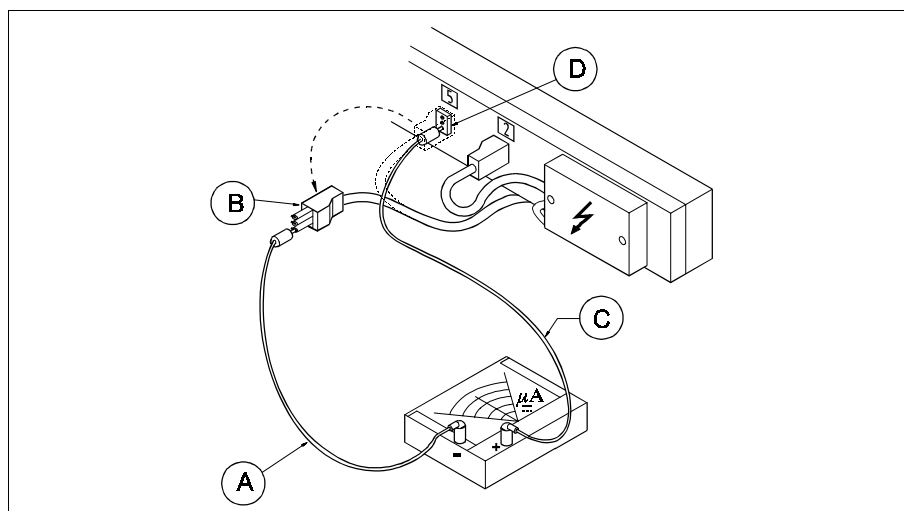

Fig. 24 Measuring ionisation
- e. Remove the RH upper side panel and within the control panel remove the test link for the flame detection (see wiring diagram) and connect a  $\mu\text{A}$ -meter (0 - 50  $\mu\text{A}$  =) in series with the flame detection circuit (see fig. 24).
While measuring ionisation the main burner should stay switched off. To do this, disconnect the main gas valve by breaking the electrical connection by removing the plug (4a). Remove the ionisation plug (5). Connect the black wire (-) (A) of the  $\mu\text{A}$ -meter with the lowest contact in the plug (B) (see fig. 24). Connect the red wire (+) (C) of the  $\mu\text{A}$ -meter with the lowest contact in the ionisation socket (D). The ionisation of the pilot burner must show a minimum of 5  $\mu\text{A}$  during 10 seconds after which the burner falls into flame detection lockout. Wire the main gas valve back to its originally conditions.